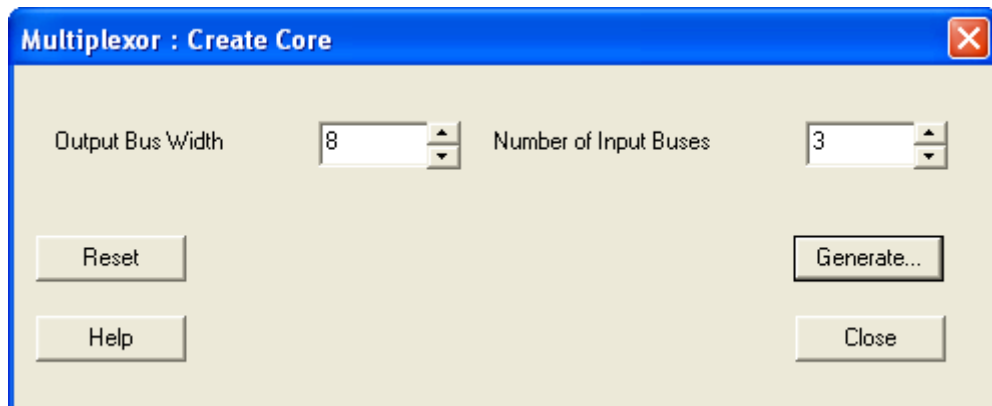

Figure 2-17 · Add Multiplexor
- Click the **Generate** button. A box will open (Figure 2-17).